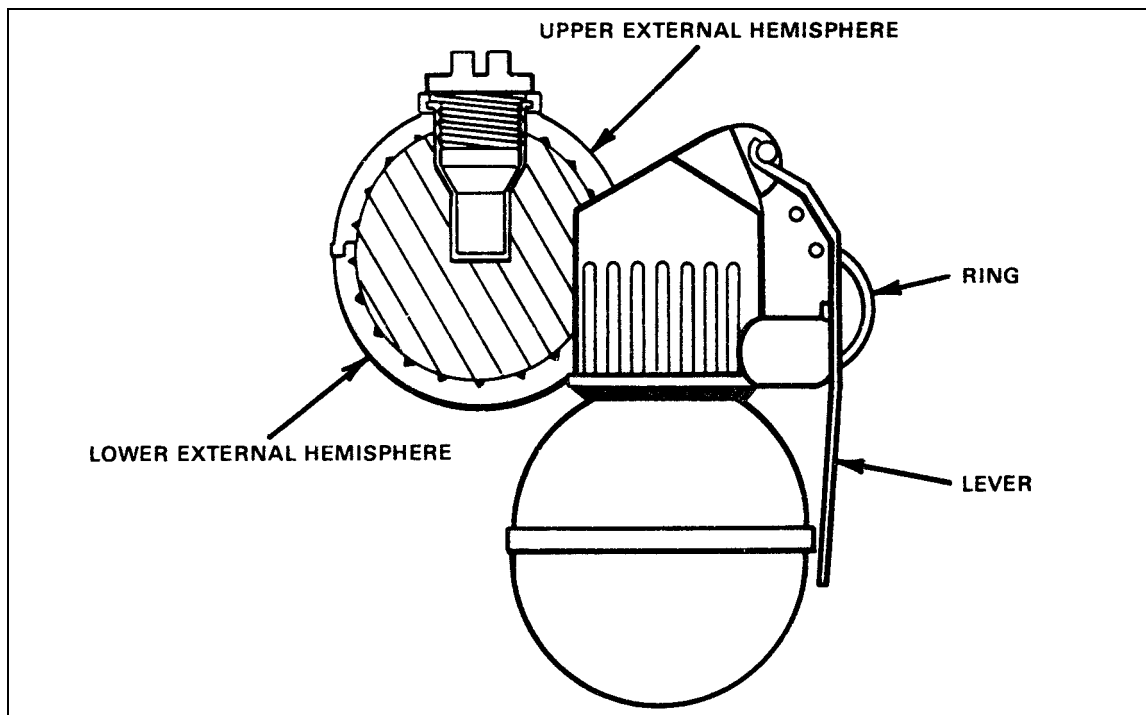

Figure D-1. RGN hand grenade.
- Type: Offensive. (Figure D-1)